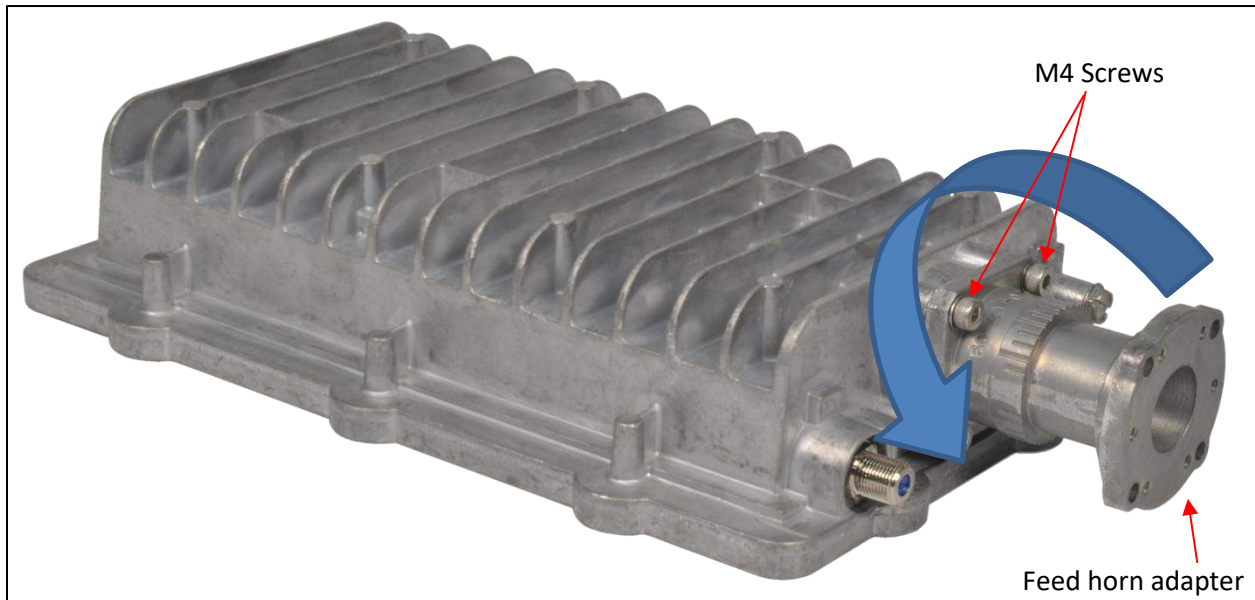

Figure 16: Changing the radio to horizontal transmit polarization
2. Rotate the feed horn adapter 90 degrees to the left as shown in Figure 16.